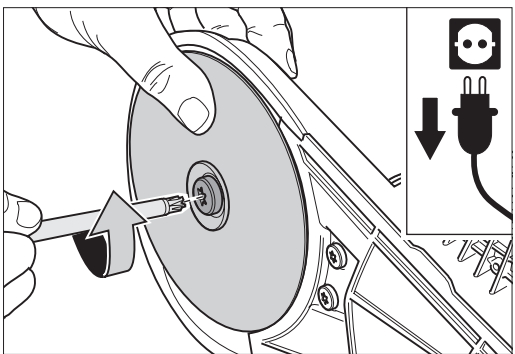

Fig. 10 Remove conventional sanding disc by loosening the fixing screw with the universal spanner and ...
- 4 Use the universal spanner to loosen the fixing screw of the paper tensioning device (Fig. 10).